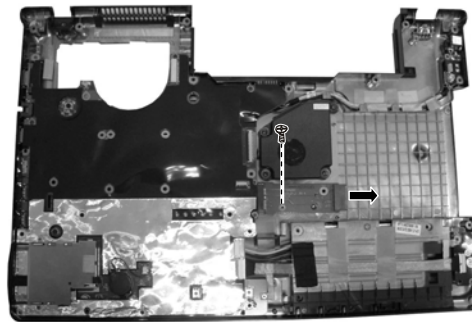

Figure 2-23 Remove the ODD transfer board
3. Remove one screw fastening the ODD transfer board, the remove it flatly. (Figure 2-23)